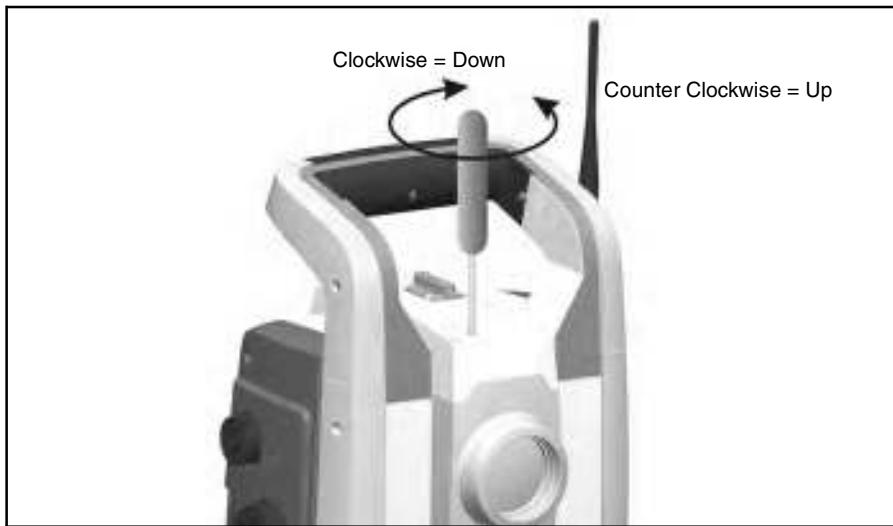

Figure 4.33 Vertical position adjustment
2. To correct the vertical position of the laser spot, insert the allen key into the vertical adjustment port and turn it as shown in figure 4.33.